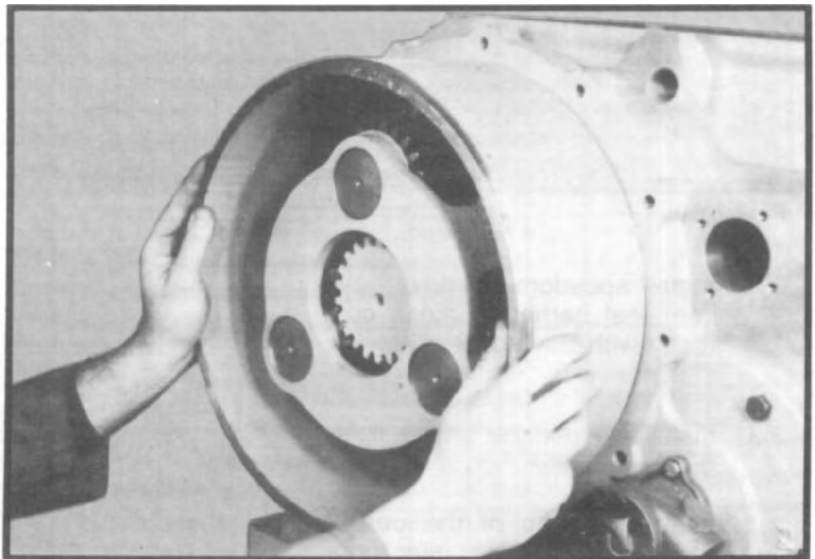

Fig. 155
3.22 Tap planetary housing into rear face plate and against o-ring. (See fig. 155.)